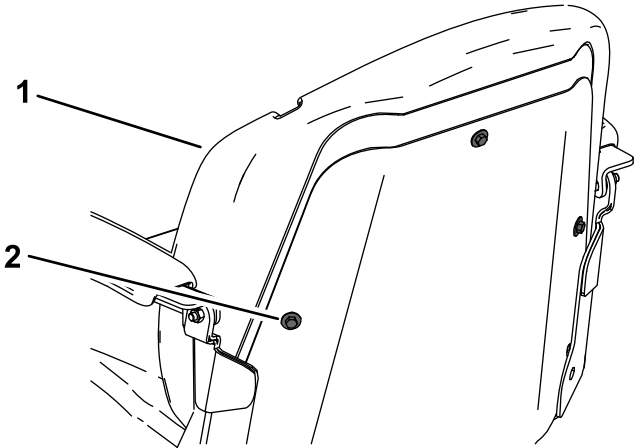

Figure 1
2. Install the back cushion using the 3 flanged-hex bolts (Figure 1).